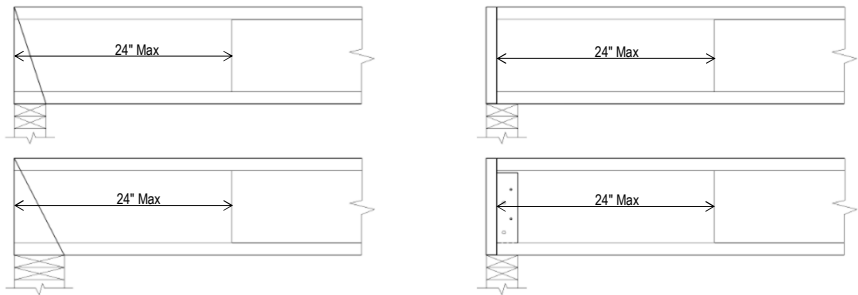

Figure 3
3. Figure 3 illustrates the various bearing conditions in relation to WEBSHIELD spacing.